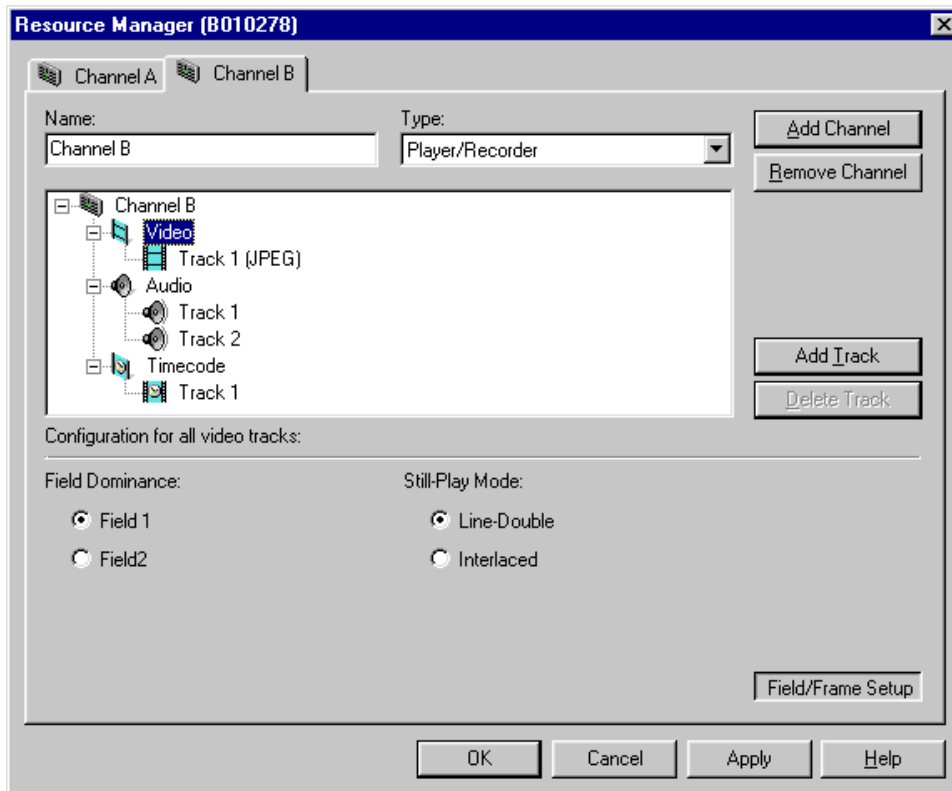

Figure 157. Field/Frame Setup controls
1. Select the Video icon in the configuration tree; the field dominance and still-play mode controls appear at the bottom of the Resource Manager dialog box (see Figure 157).